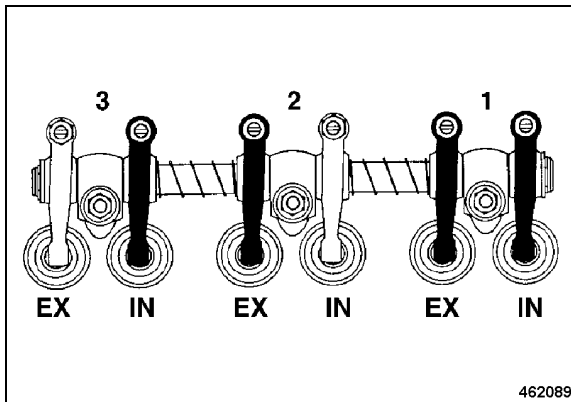

Fig. 151
- Perform the adjustment of the valve by following the adjustment diagram 2" (Fig. 151), black mark.